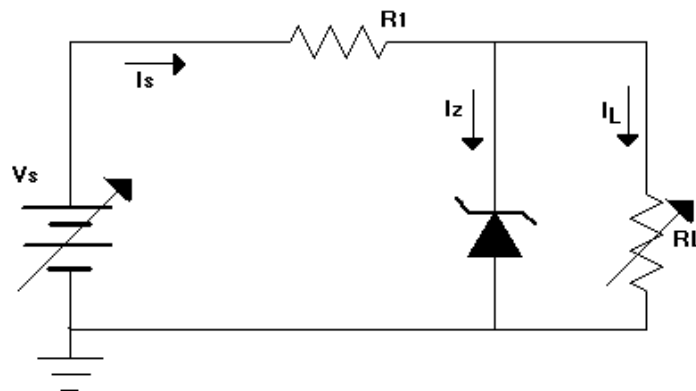

Figure 5.7
- Connect the circuit in figure 5.7 use the values in table 5.3
1. For the circuit in figure 5.7 use the values in table 5.4.